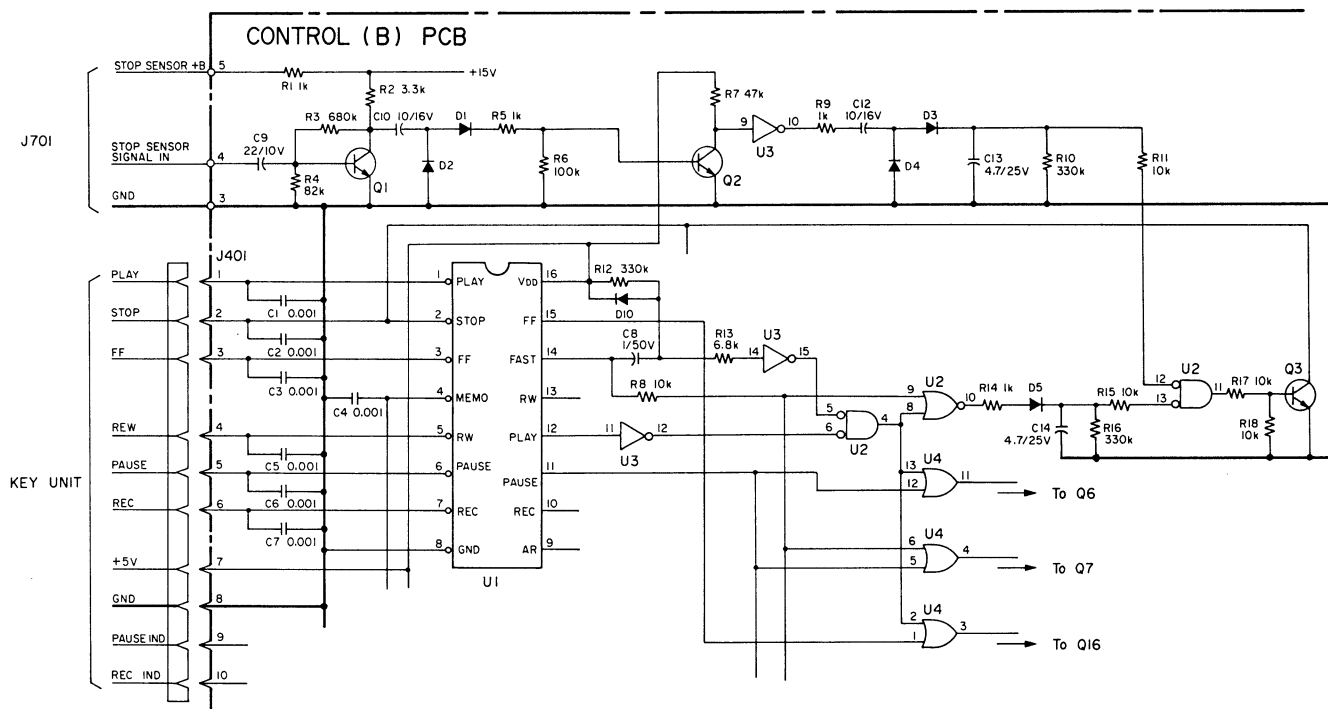

Fig. 4-1
The fundamental control operations are handled by flip flop, U1, with REC, PAUSE, PLAY, REW, FAST, and F.F. outputs (pins #10 ~ 15). Refer to Fig. 4-1.
The circuit operation is, when PLAY is depressed during FF or REW, input pin (6) of U2 goes to "L". On the other hand, U1 FAST output pin (14) goes from "H" to "L", and input pin (5) of U2 which was at "L" goes to "H" delayed by C8 and R12. After elapse of this time constant, U2 input pin (5) goes to "L" and together with "L" of U2 input pin (6), the U2 output pin (4) gate opens and the transport goes to the PLAY mode. Refer to Fig. 4-1.
When the tape comes to the end from FF and REW or PLAY, the magnet will stop rotating, the current stops fluctuating, thus switching OFF Q2, and U2 input pin (12) goes to "L". However, by effect of time constants C13 and R10, input pin (12) of U2 is delayed (1 ~ 2 sec.) in going to "L", after which Q3 switching circuit stops the transport. Refer to Fig. 4-1.